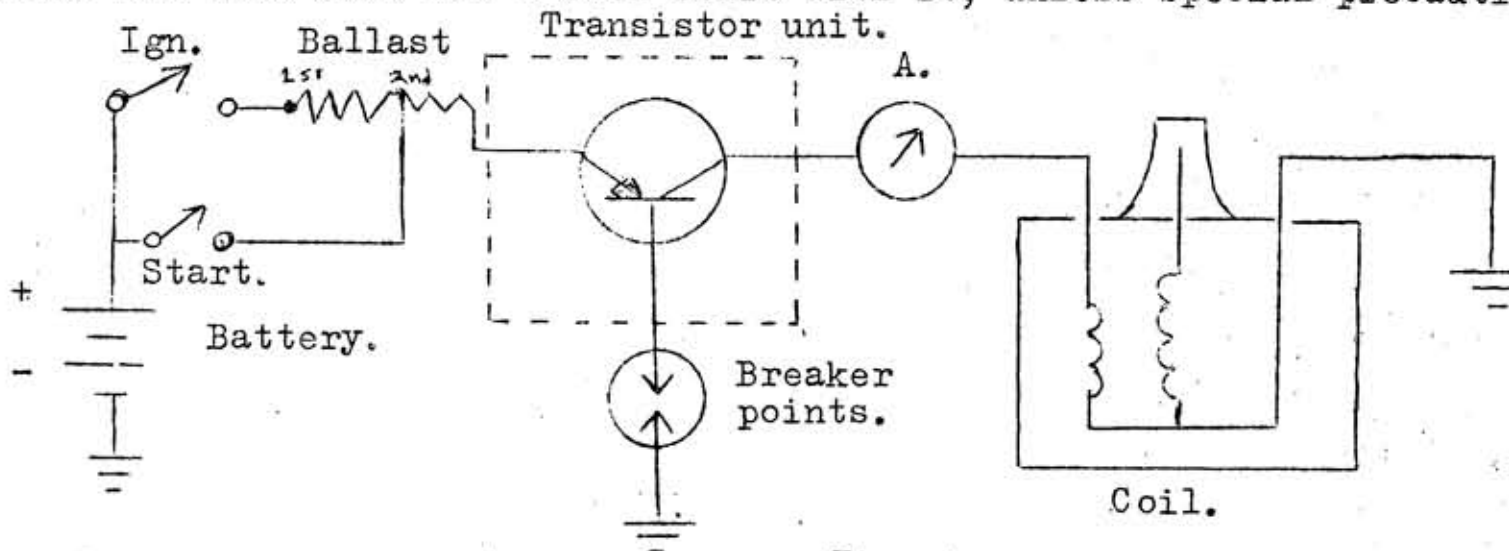

Fig. 3
The ballast resistor is adjusted to get a primary coil current of some 10Amps, (12Volt system). During cranking, the battery voltage will drop to 10 Volts, or less, thus reducing the coil current below 10 Amps. Just when you want a good spark, it is not available. Therefore we have put the ballast resistor in the switch circuit. An additional tap is now fitted to the ballast resistor and adjusted to 10Amps coil current, with the battery at 12 volt. This tap is then connected to the starting switch. (fig.3) The taps on the ballast resistor can easily be adjusted on the workbench. Wire up transistor ignition and coil as in fig.3. Place an Amp-meter between the transistor unit and the coil. (point A in fig.3.) Connect 1st. tap on ballast resistor to positive of 12volt battery. Connect breaker point wire to negative and adjust 1st tap to make amp-meter read 9.5 -10 Amp. Now disconnect 12volt from first tap and connect 10volt to 2nd. tap and adjust it to 9.5 -10 Amp. (these measurements and adjustments should be made very quickly). Cars having automatic choke (eg. Valiants) must have this special starting tap, as they must start at once. If they don't start immediately, the carburettor will be flooded. This starting tap can be connected to the special starting switch supplied on most modern cars. But if you do not want to upset the normal wiring in the car, you could connect it to the starter solenoid, as this is only operating during cranking. To determine how much the battery voltage will drop, it would be a good idea to connect a voltmeter to your car's electrical system, and watch it for a few days.*
* Since the time of writing, "Electronics Australia" has published an article on the use of Voltmeters in the Automotive field. A voltmeter can be a real asset in your car, for the battery voltage will vary over a wide range under different conditions, and the instrument will reveal these variations at a glance. The ampmeter is also a handy instrument, for reading your primary current, (fig.3), checking the state of ignition system, and indicating when your points are closed, when stationary.